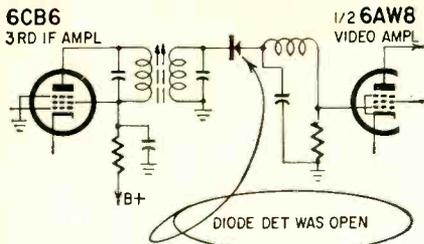

Fig. 6—Open detector diode resulted in no picture or sound.
**Conclusion:** Signal being lost between plate of third if and grid of video amplifier. Further checks revealed that diode detector was open. Replacing it cured the trouble (Fig. 6).